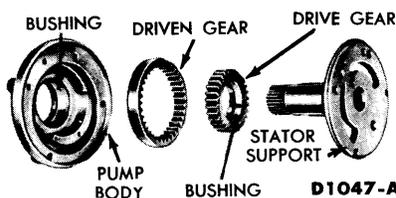

FIG. 17—Front Pump Disassembled
4. Refer to Fig. 17 for a disassembled view of the front pump. Inspect the pump body bushing, drive gear bushing, gear pockets, and crescent for scores.